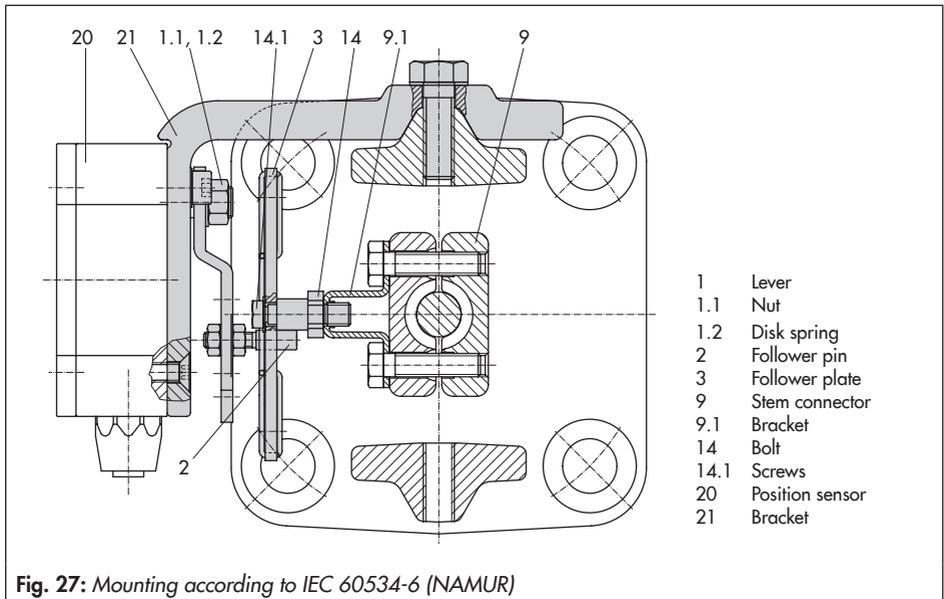

Fig. 27: Mounting according to IEC 60534-6 (NAMUR)
The signal pressure from the positioner is routed over the signal pressure connection of the connecting plate (9, Fig. 27 left) to the actuator diaphragm chamber. To proceed, first screw the connecting plate (9) included in the accessories onto the actuator yoke.
- Turn the connecting plate (9) so that the correct symbol for the fail-safe action "actuator stem extends" or "actuator stem retracts" is aligned with the marking (Fig. 27, below).
- Make absolutely sure that the gasket for the connecting plate (9) is correctly inserted.
- Refer to Fig. 27
1. Place the lever (1) on the position sensor in **mid-position** and **hold it in place**. Unthread the nut (1.1) and remove the lever together with the disk spring (1.2) from the sensor shaft.
2. Screw the position sensor (20) onto the bracket (21).